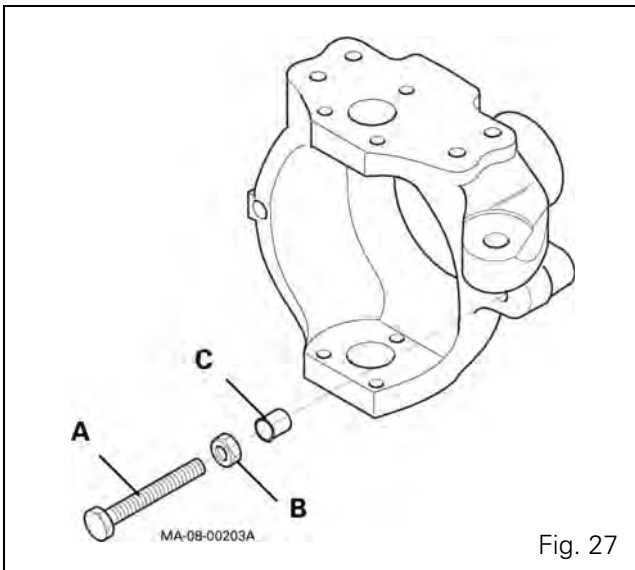

Fig. 27
27. Position screw A, nut B and washer C (Fig. 27).